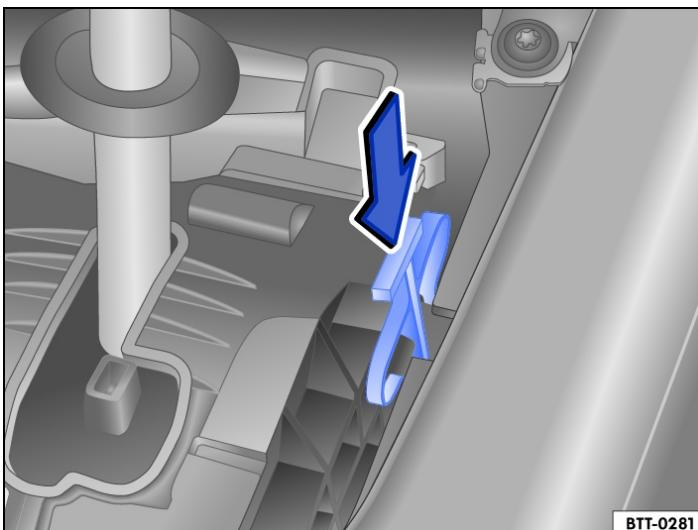

Fig. 2 Manually release selector lever lock (variant 2)
- OR: push the release lever in the direction of the arrow → Fig. 2 and hold it in this position (variant 2).